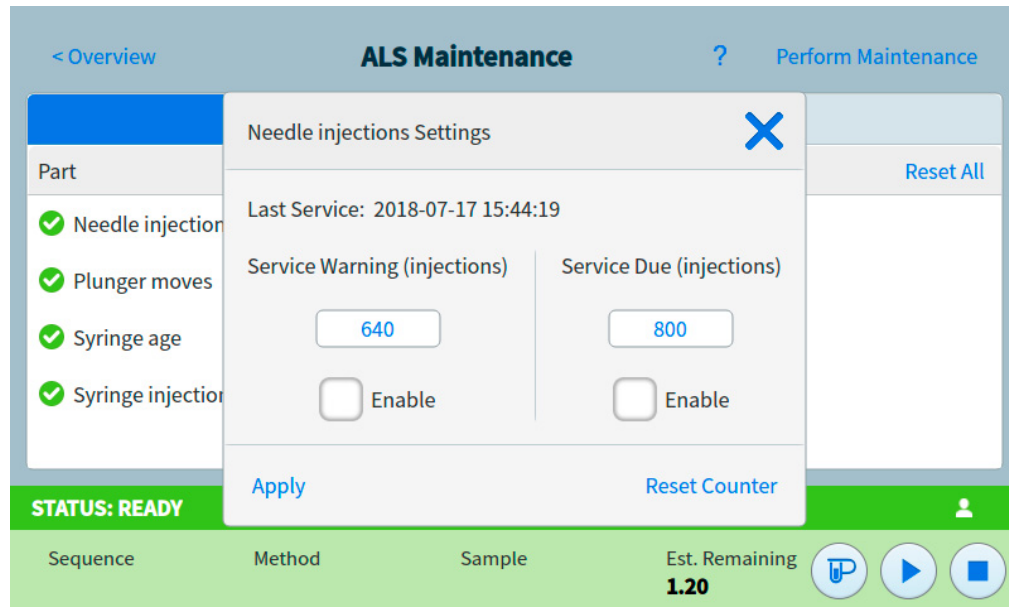

Figure 35. Settings dialog box
- 2 Select the Component listing for the counter you want to change. See Figure 35.